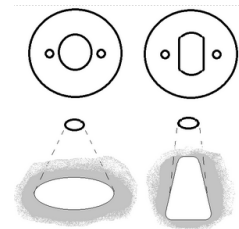

Fig. 3
- Choose the required bezel and lens according to the light output pattern required (see Fig. 3)